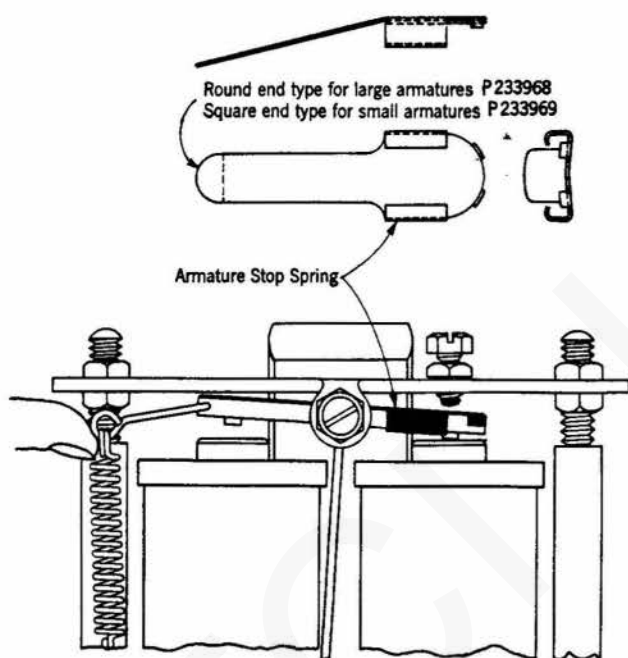

Fig. 3 — Armature Stop Spring
3.01 Armature stop springs which prevent sticking are provided for use on 38, 46, 47, 51, 55, and 65-type ringers (other than loud ringing bells) or where ringers are equipped with chromium-plated armatures or are unbiased (see Fig. 3).